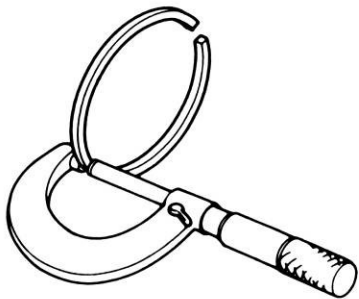

Figure 4-35: Measure Piston Ring Width
1. See Figure 4-35. Measure top and second piston ring width.